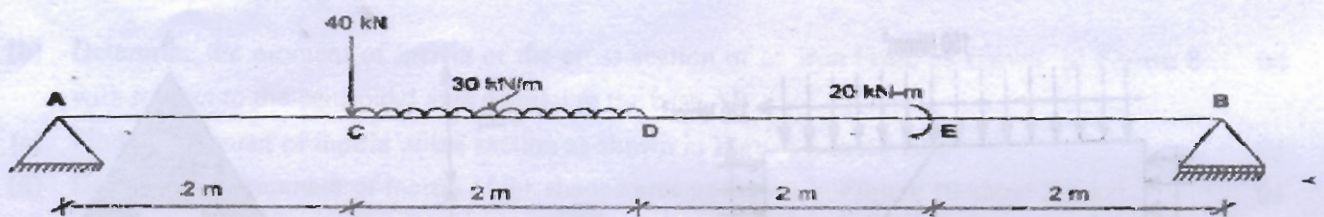

Fig. 12
- (b)** Draw Shear Force and Bending Moment Diagram for the beam shown in **Figure 12**. Also locate the point of maximum bending moment.